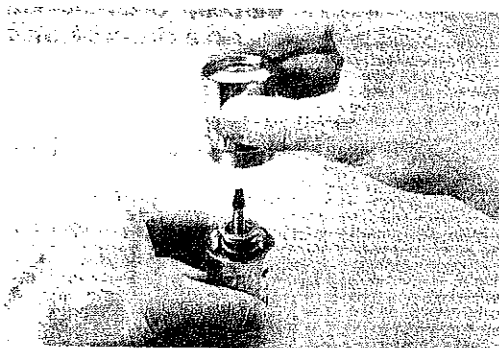

Fig. 6B
6. Carefully lower the main body(28) onto the piston shaft until the bullet and shaft have passed through the piston shaft o-ring. The main body should now be resting on the spring, mated flush with the end. (See fig. 6B.)